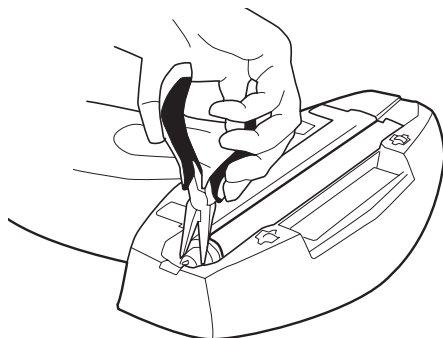

Figure 9
4. Using a small pair of needle nosed pliers at one end of the bulb, rotate the bulb 90 degrees and remove (see Figure 9).